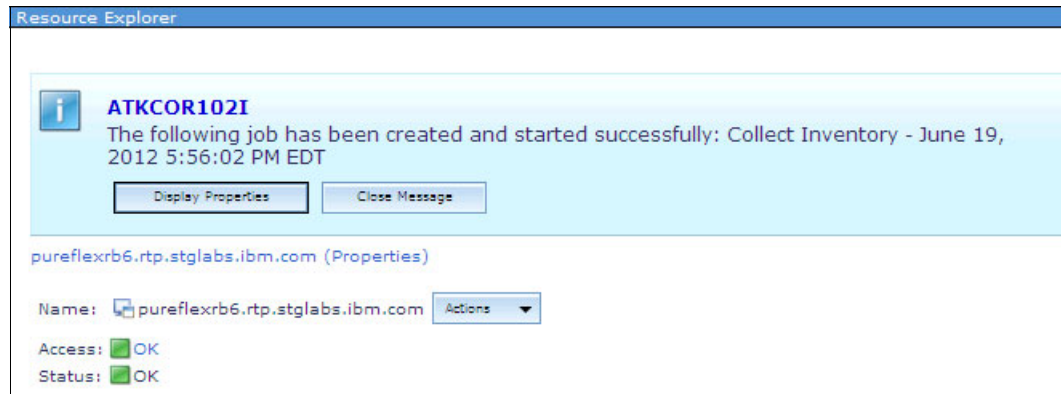

Figure 9-29 Information blue box
10. Click **Display Properties** as shown in Figure 9-29 to check the progress.